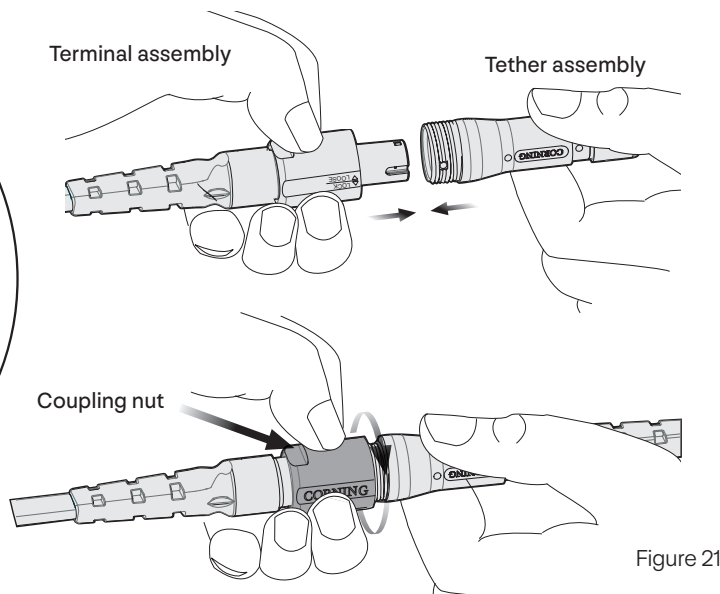

Figure 21
**Step 4:** Align the reference keys and gently turn the assembly coupling nut onto the tether assembly until the nut is hand tight (Figure 21).